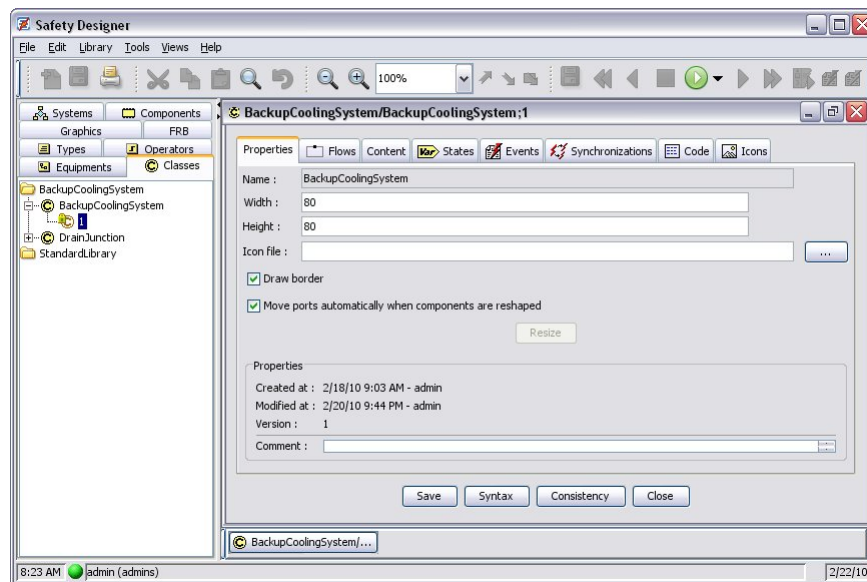

Figure 19: Model Class Editor
7. Access the Model class tab (Figure 19: Model Class Editor)